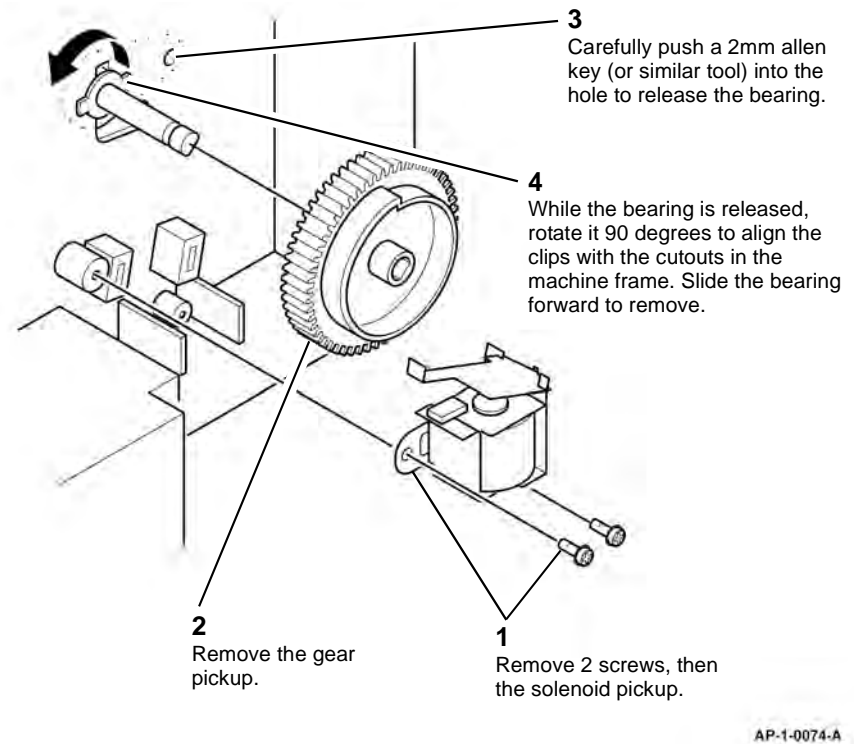

Figure 3 Solenoid and gear pickup removal
5. Remove the solenoid pickup and gear - pickup, Figure 3.